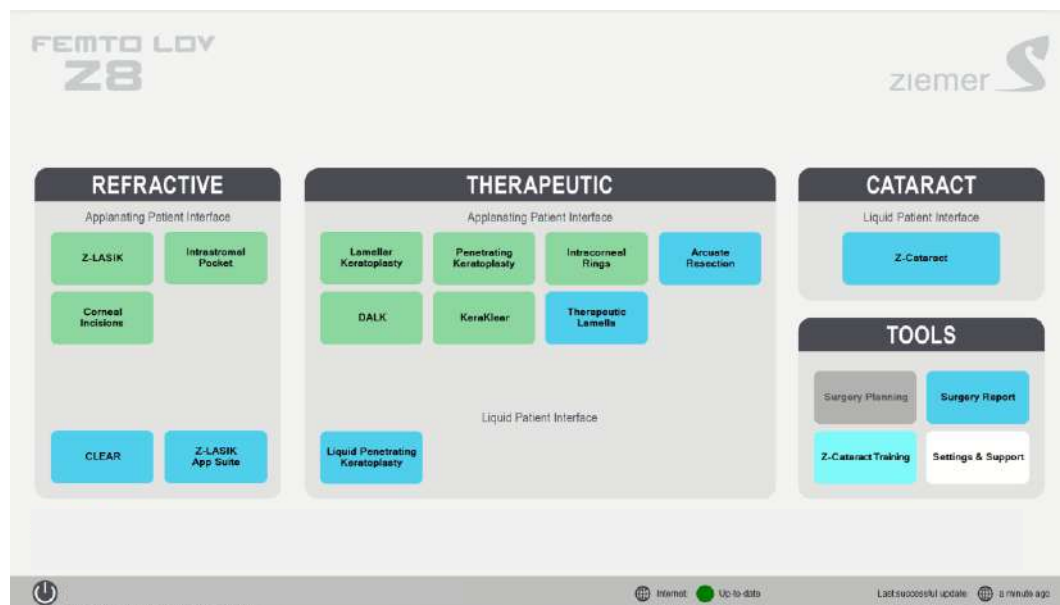

Figure 8: Module Selection screen of the FEMTO LDV
After closing the currently running module or tool, the “Module Selection” screen appears (see Figure 8). Touch the “Shut down” button to shut down the LDV.
- 2 **Close Application:** Touch the Close Application button to close the application Software. Closing the cornea software will not shut down the system but return to the “Module Selection” screen (see Figure 8).